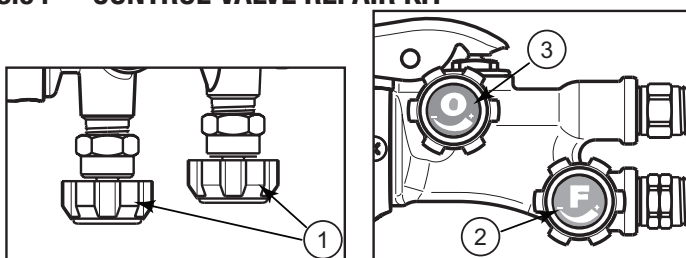

Figure 3-2
4. Place the correct decal on the knob (see Figure 3-2).